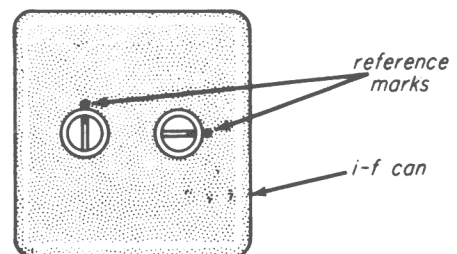

Fig. 36-20
Step 3. Record the position of the i-f adjustments by making a mark on the screw slot and on the i-f can, as shown in Fig. 36-20.